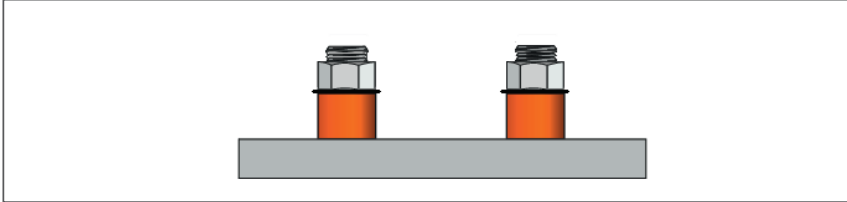
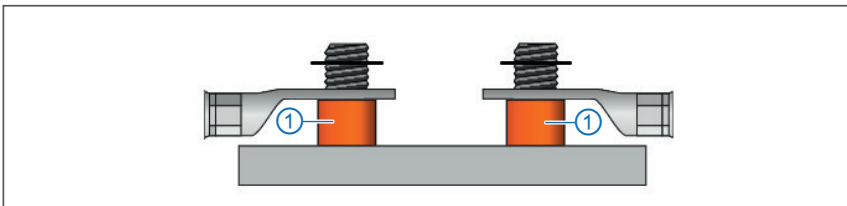
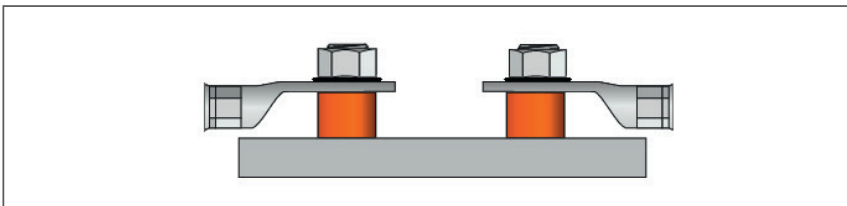

Fig. 5-8: HV BM 1.2+S, copper domes/threaded bolts for the HV+ power cables
Fig. 5-9: HV BM 1.2+S, placing the ring terminals of the power cables HV+ on the threaded bolts
Fig. 5-10: HV BM 1.2+S, power cable HV+, fastening the ring terminals with the M8 nuts
Fig. 5-8 shows the threaded bolts for the ring terminals of the HV+ power cables. The ring terminals are placed on copper domes as shown in Fig. 5-9 and Fig. 5-10 and fastened with M8 nuts.
☞ Place the ring terminals on the copper domes ① as shown in Fig. 5-9.